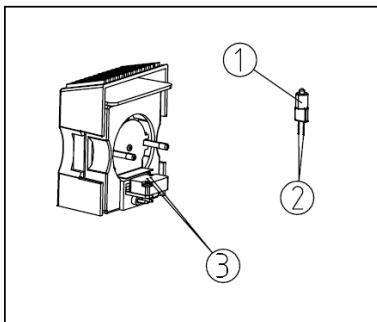

Fig.3
Use clean glove or gauze to hold the bulb and make sure the bulb pin ① facing to hole ③ and lock. Please make sure the bulb should be vertical. (Fig. 3)